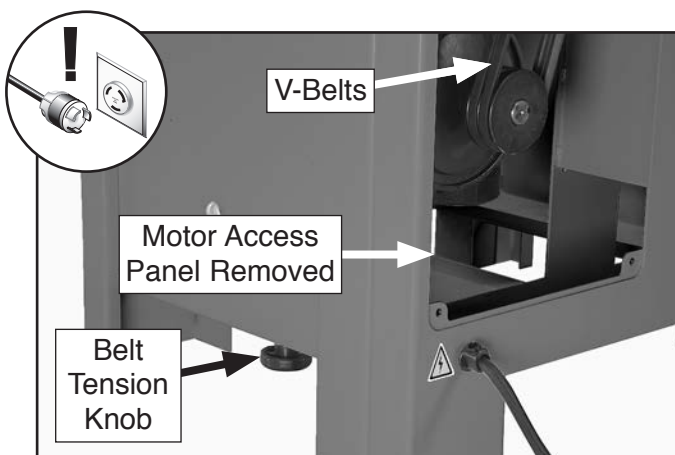
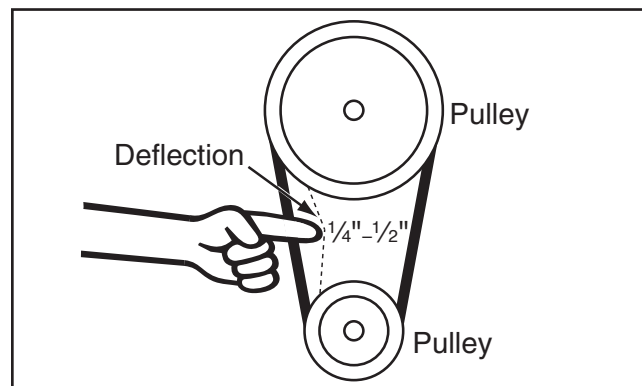

Figure 49. Location of V-belts and belt tension knob.
Figure 50. Checking V-belt tension.
2. Remove motor access panel on back of machine (see **Figure 49**).
3. Press each belt with moderate pressure in center to check belt tension. Belt is correctly tensioned when there is approximately $\frac{1}{4}$ "– $\frac{1}{2}$ " deflection when pushed, as shown in **Figure 50**.
4. Use belt tension knob (see **Figure 49**) to adjust V-belt tension until there is approximately $\frac{1}{4}$ "– $\frac{1}{2}$ " deflection when V-belts are pushed with moderate pressure, as shown in **Figure 50**.
3. Remove belt tension knob (see **Figure 49** on **Page 42**).